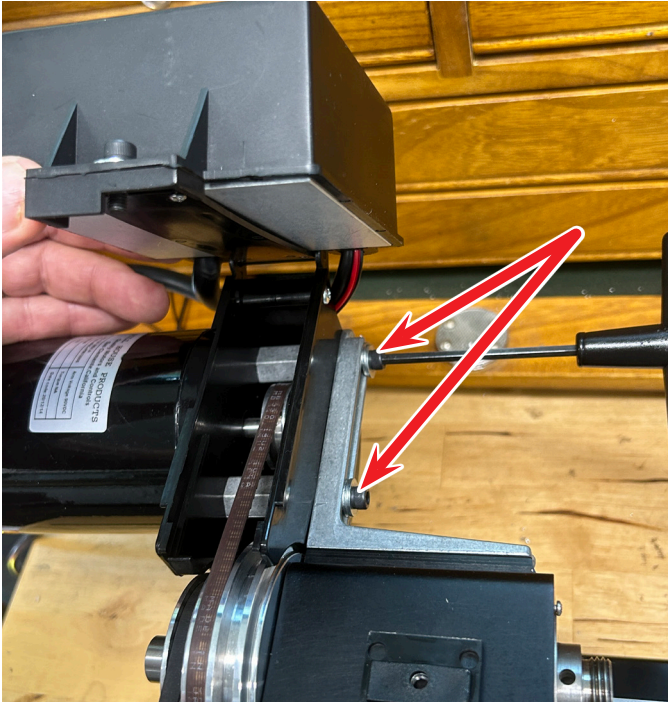

FIGURE 4—The red arrows show the locations of the two bracket adjustment screws.
C. Loosen the two motor bracket adjustment screws (see Figure 4).